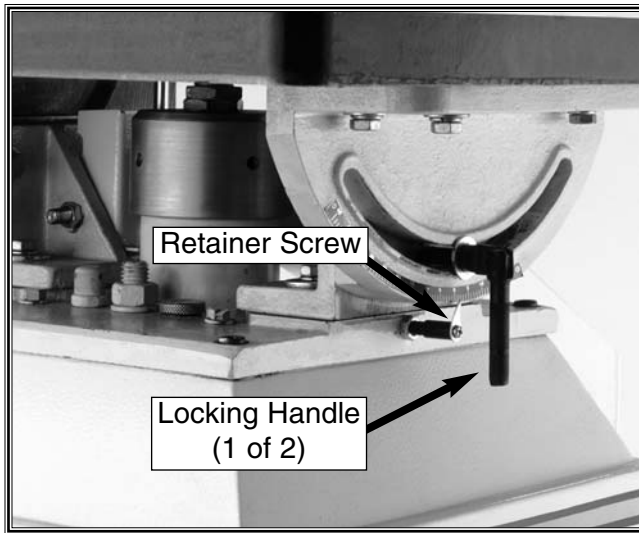

Figure 15. Loosen the locking handles on the trunnions.
1. Loosen both locking handles (**Figure 15**) located on each side of the table trunnion assembly and tilt the table forward.
5. Loosen the retainer screw (**Figure 15**) that secures the scale pointer and adjust the scale pointer to read 0° . Re-tighten the retainer screw.